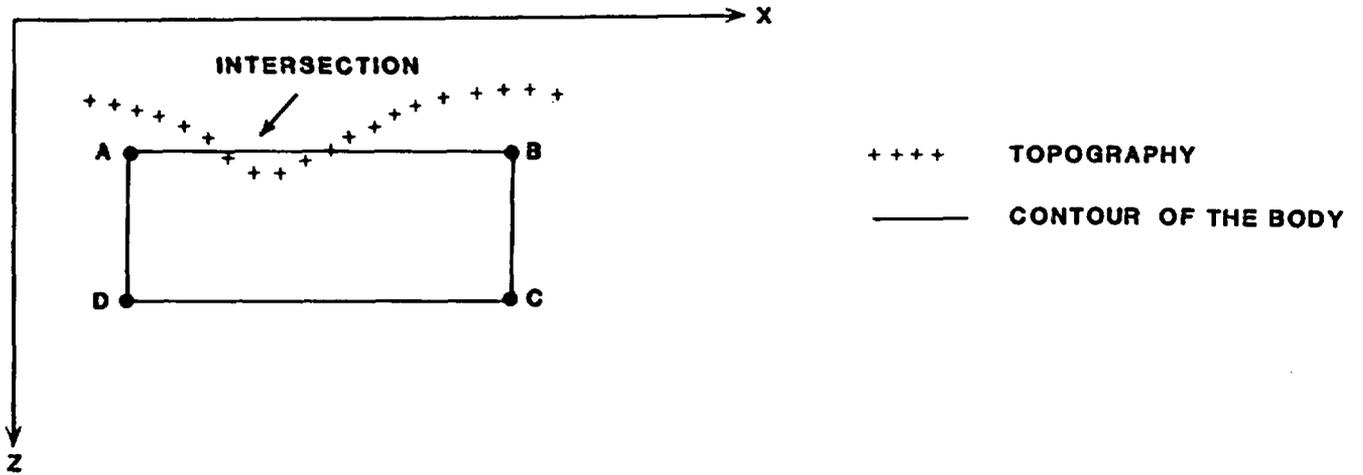

Fig. 5a - The side AB of the body ABCD intersects the Earth's surface.
(1) Cross-control only checks for corner-points which extend above the topographic surface. It does not detect line segments extending above the topographic surface (Fig. 5a).